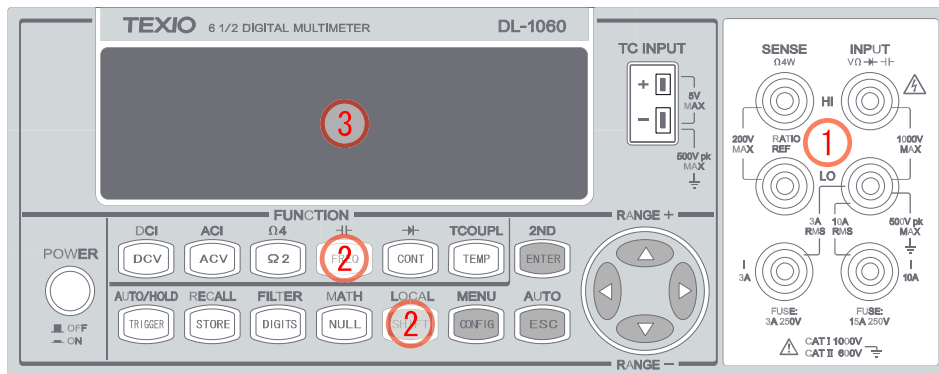

Figure 2-13
1. Connect the test leads to the terminals on the front panel as shown in **Figure 2-13**.